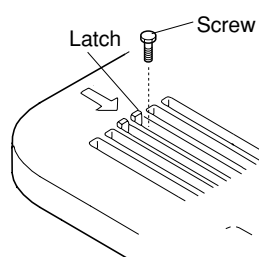

Fig. 9-12b
- (1) Remove the air-intake grille and air filter from the ceiling panel. (Figs. 9-12b, 9-13 and 9-14)
- a) Remove the 2 screws on the latch of the air-intake grille. (Fig. 9-12b)